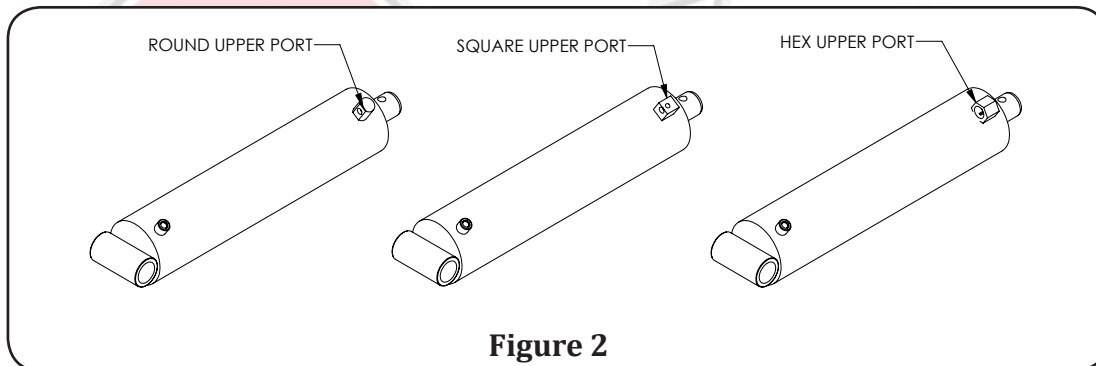

Figure 2
2. Determine whether the port at the rod end of the cylinder is round, hexagonal or square shaped (**Figure 2**). This is referred to as the upper port style and is needed to identify the correct seal kit.